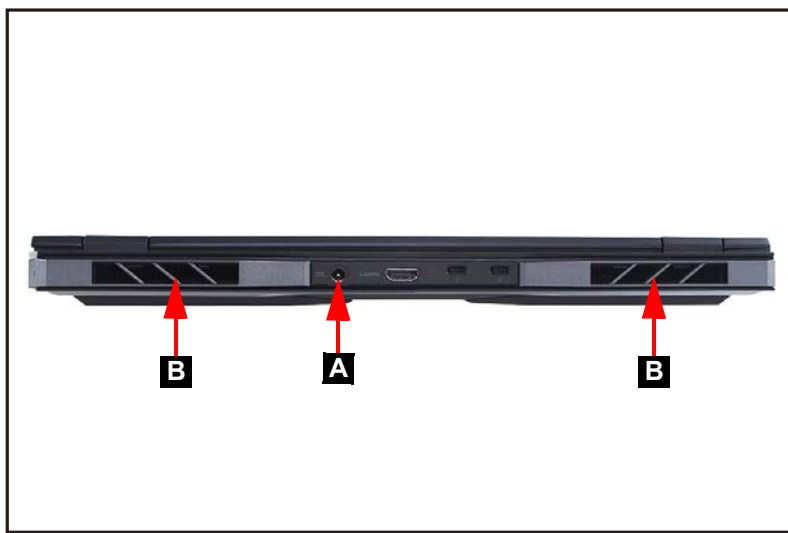

Figure 1-1. AC Adapter Outlet and Thermal Deco Removal
2. Remove the power adapter (A) from the system and peripherals (Figure 1-1).
4. Remove two (2) thermal deco (B) from their respective slots (Figure 1-1).